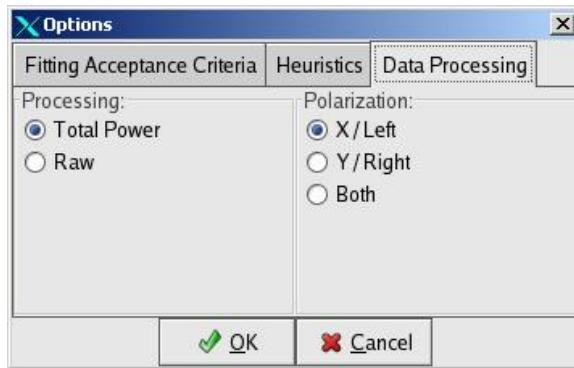

Figure 4.5: The pop-up menu to change the polarization and calibration used in pointing and focus fitting.
Step 6 Make the new data processing selections in the pop-up window. (see Figure 4.5).